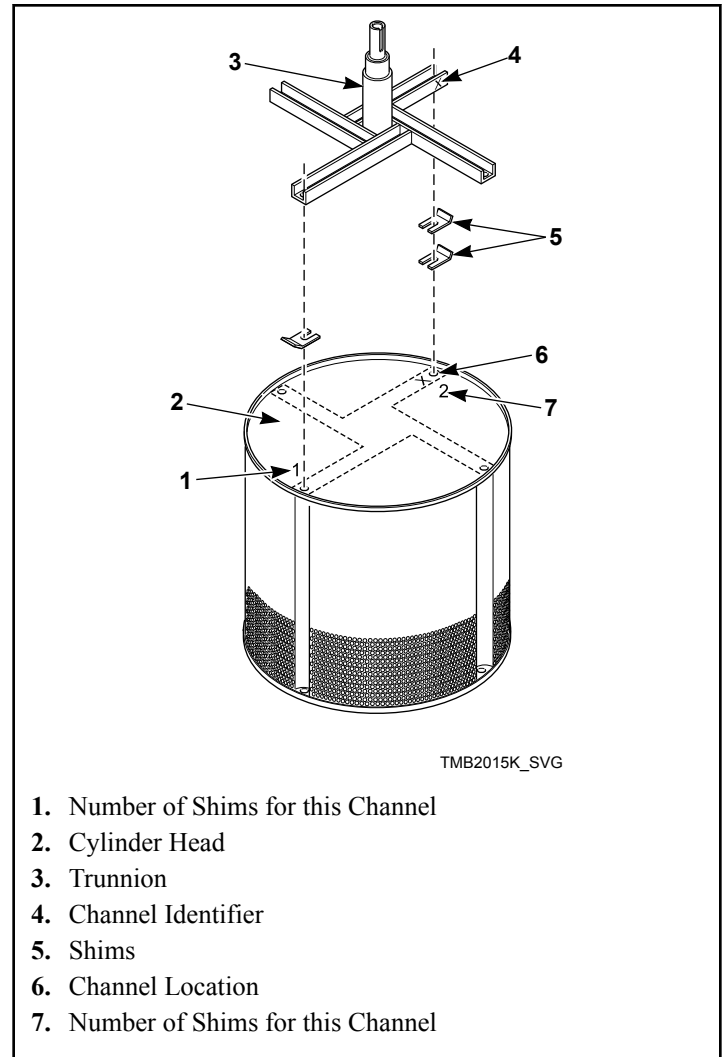

Figure 9
6. To ensure proper cylinder balance for reassembly, mark each channel's original location on cylinder head and number of shims for each channel before removal. Refer to *Figure 9*.